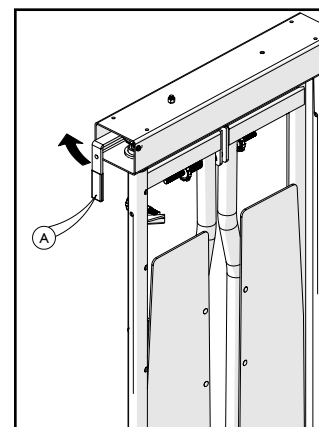
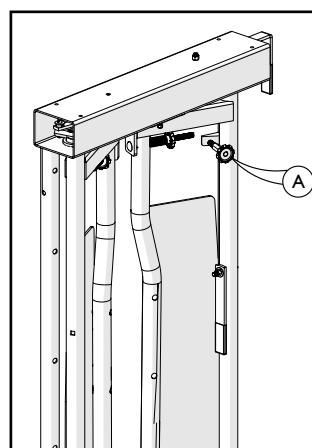

Figure 3: Control handle
Figure 4: Loading position
3. Adjusting the head opening can be done by pulling the control handle (a) on the side of the headgate toward the front of the headgate as shown (Figure 3). This allows the doors to swing into the loading position (Figure 4).
4. With the doors in the loading position, turn the aluminum knob (a) on the right hand door to widen, or narrow the head opening (Figure 4).
4. Pull the control handle (a) towards the front of the headgate as shown (Figure 3, page 4) and the doors will swing into the loading position for the next animal.